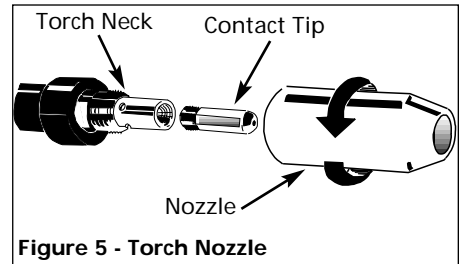

Figure 5 - Torch Nozzle
7. Remove the nozzle by turning **counterclockwise**. Then unscrew the contact tip from the end of the welding torch (See Figure 5). Plug the welder into the proper power supply receptacle.